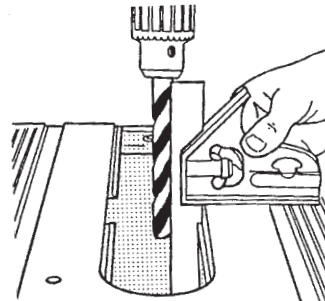

Figure B-55
13. Set the combination square against the bit and table, as shown in Figure B-55. The square should contact the bit along its entire length. When the table is exactly perpendicular to the drill bit, lock the table, as seen in Figure B-56.